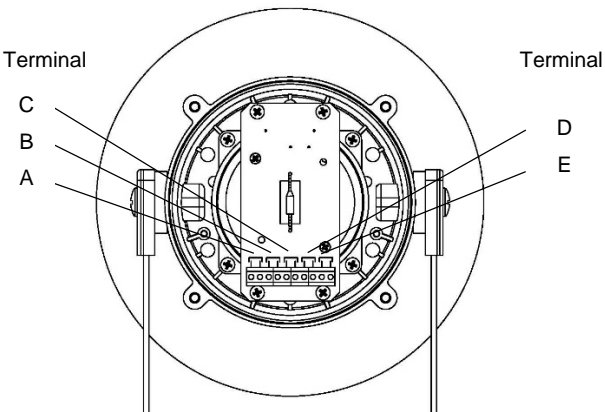

Fig. 3 Line in Terminals
- c. Fit an M20x1.5 suitable cable gland or ½" NPT conduit into the corresponding entry in the enclosure and connect the field wiring to the appropriate loudspeaker terminals as shown in section 5 / Fig 3 of this manual. An end of line monitoring resistor may be fitted to the unit. Additional entries which are not used must always be fitted with suitable blanking elements
loudspeakers are fitted with a five way terminal block. Terminal A is common and one of the other terminals B, C, D or E should be selected depending on what output level is required (see Fig. 3 and table below).